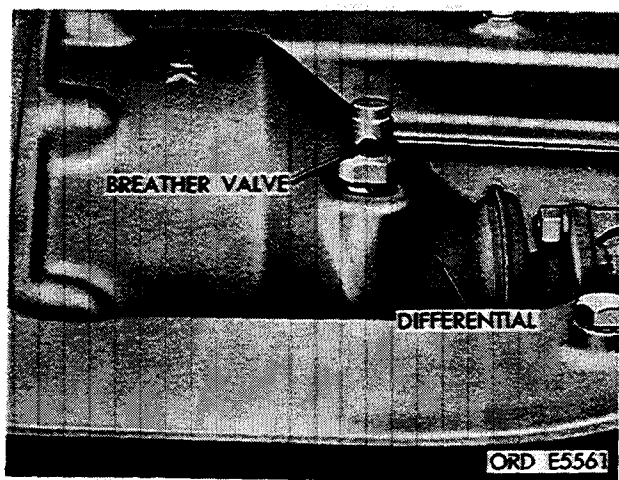

Figure 2-308. Differential breather valve.
a. *Replacement.* The differential breather valve is located at the top of the differential (fig. 2-308). Clean outside of valve and around valve before removing it to avoid possibility of dirt entering lubricant. Turn in or out to install or remove valve.